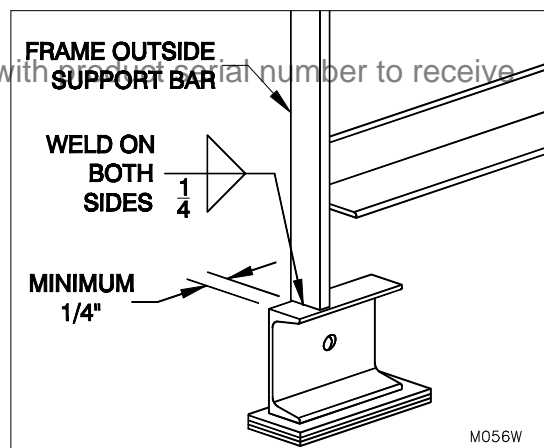

Figure 18: 30,000 lb + Outer Rear Shims (4" Shim Kit Channel Shim Shown)
18. For 30,000 MD models and higher capacities, weld the additional two rear shims to the outside support bar of the frame as shown in Figure 18: 30,000 lb + Outer Rear Shims (4" Shim Kit Channel Shim Shown) on page 12 and shim until they are fully supported. Weld all of the shims to each other as well as to the dock leveler frame.